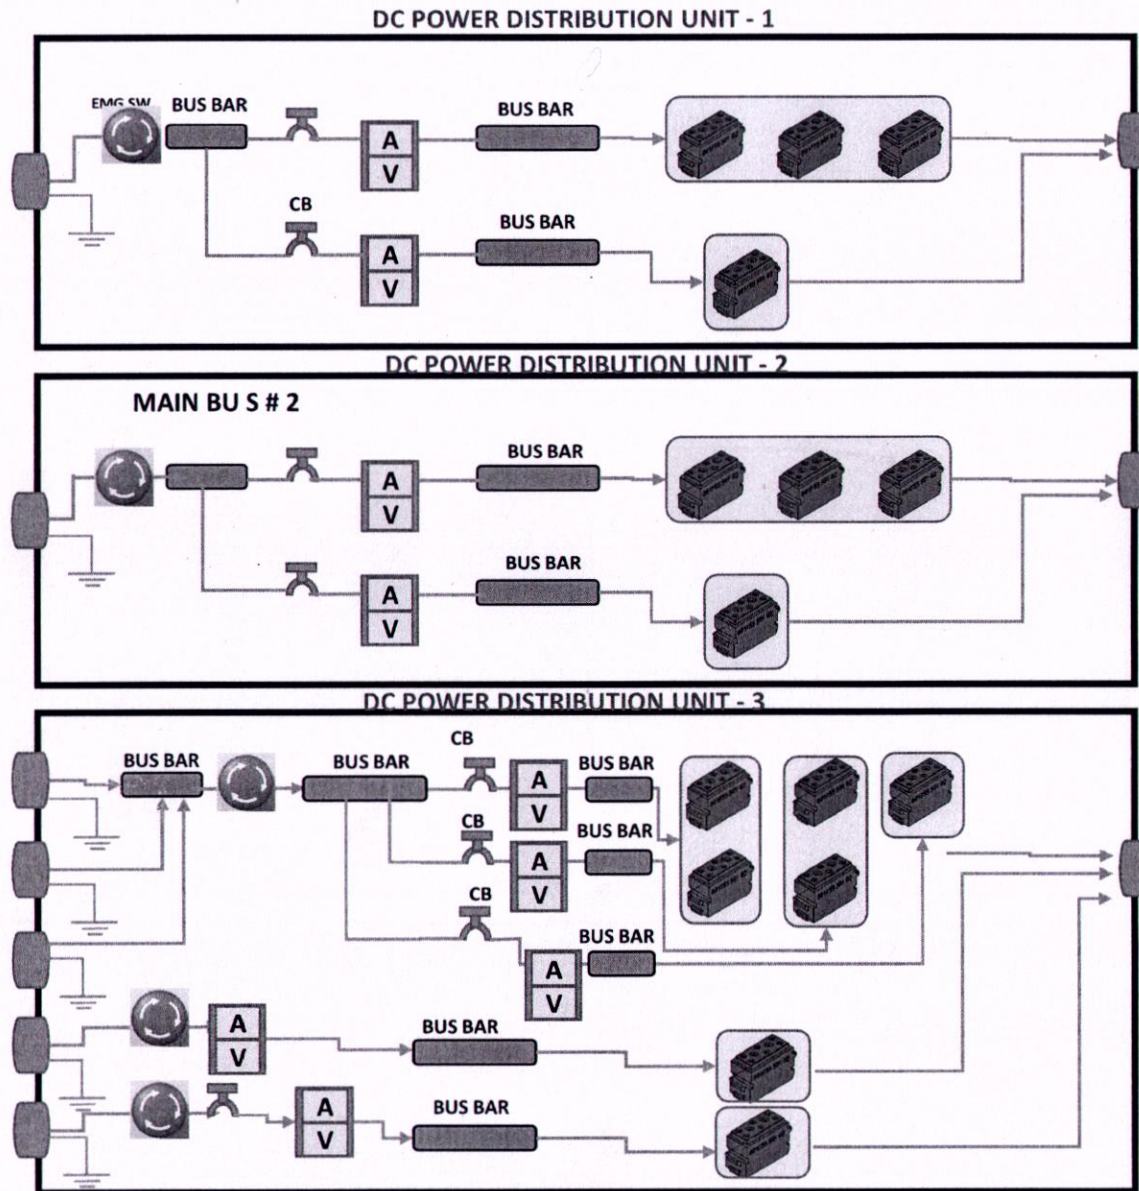

Figure 7: DC Power Distribution Unit 1, 2 and 3
- Interconnections of DC Power Distribution Unit 1 shall be made as shown in **Figure 7**.
- Interconnections of DC Power Distribution Unit 2 shall be made as shown in **Figure 7**.
- Interconnections of DC Power Distribution Unit 3 shall be made as shown in **Figure 7**.